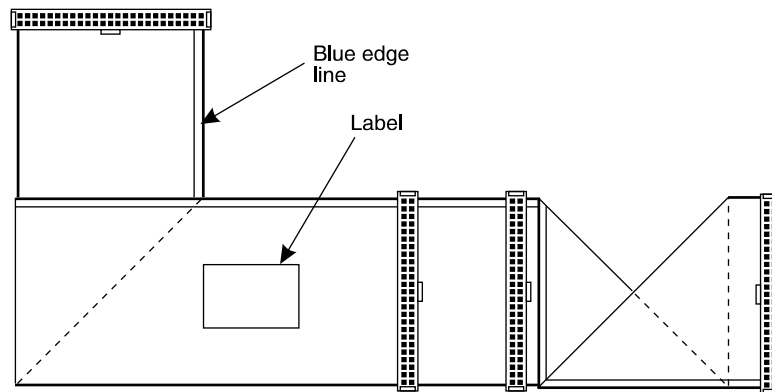
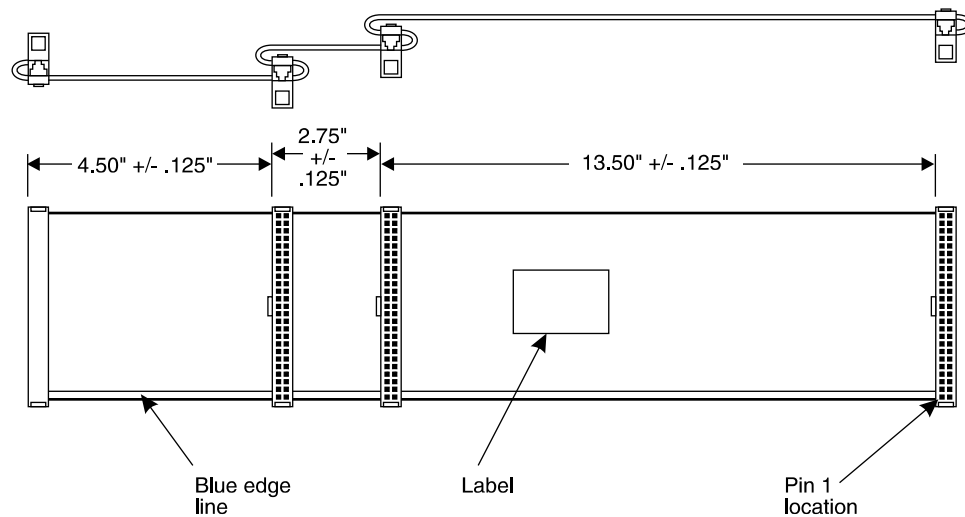

Figure B-22. SCSI Cable for SCSI Peripherals — Folded View
Figure B-23. SCSI Cable for SCSI Peripherals
1. Figure B-22 shows the SCSI cable as it comes from the factory. Attach the SCSI cable by aligning it with the pins on the cable receptacle and pushing it on. All connectors are "keyed" to prevent incorrect installation (see Figure B-23).
11. Unplug the disk activity cable assembly from J19 pin header on the backplane as shown in Figure B-2, Figure B-3, Figure B-13, and Figure B-22.
2. Visually inspect the backplane to verify that the J20 jumper shown in Figure B-22 is present. If this jumper is not provided, remove the jumper from the defective backplane and assemble to the replacement. Make a note on the trouble report and attach to the defective backplane.
9. Make a final, visual inspection to ensure that all cables and harnesses have been reconnected to their appropriate backplane and circuit card terminations. Figure B-2, Figure B-3, Figure B-13, and Figure B-22 should be used for reference during the connection of all cable assemblies.